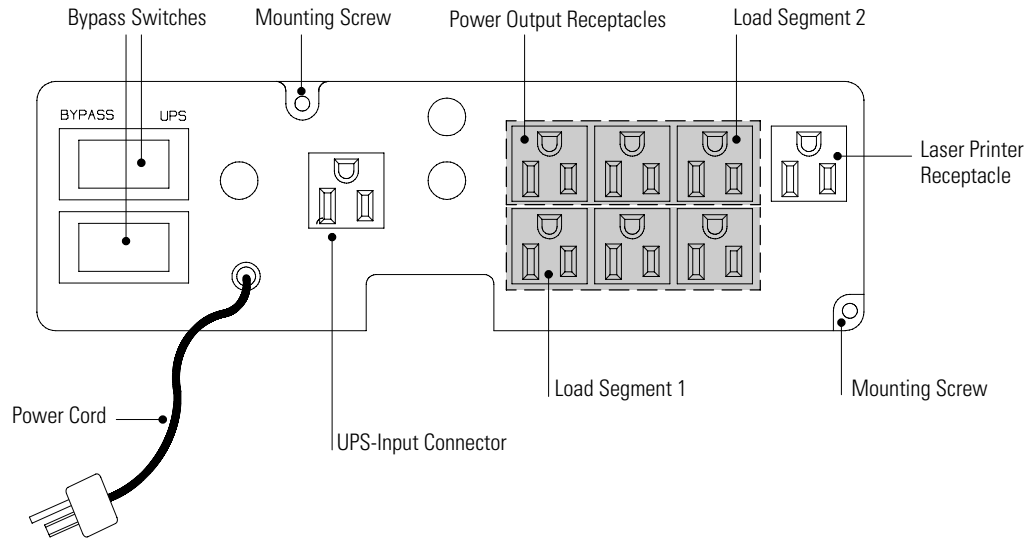
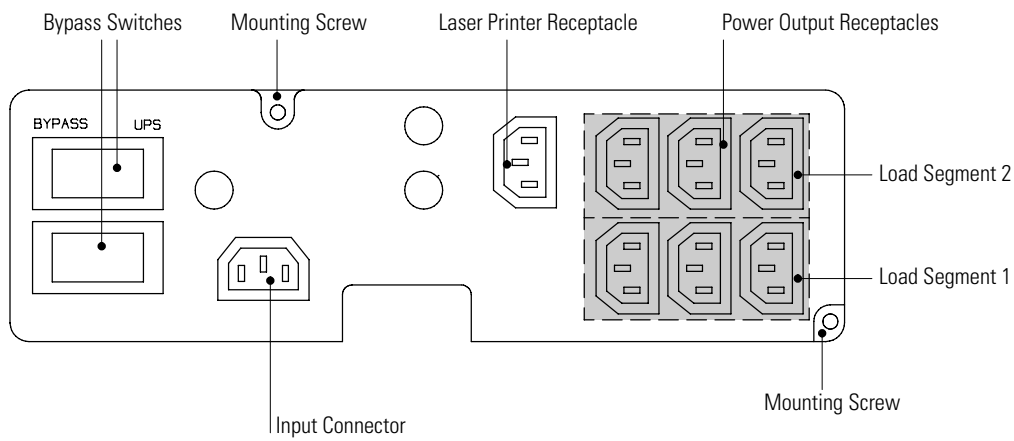

Figure 2. PowerPass for 700–1500 VA, 120V UPS
Figure 4. PowerPass for 700–2000 VA, 240V UPS
9. Verify that both Bypass switches on the PowerPass are in the UPS position (see Figure 2 through Figure 4).
Each PowerPass has two load segments as shown in Figure 2 through Figure 4 starting on page 15.